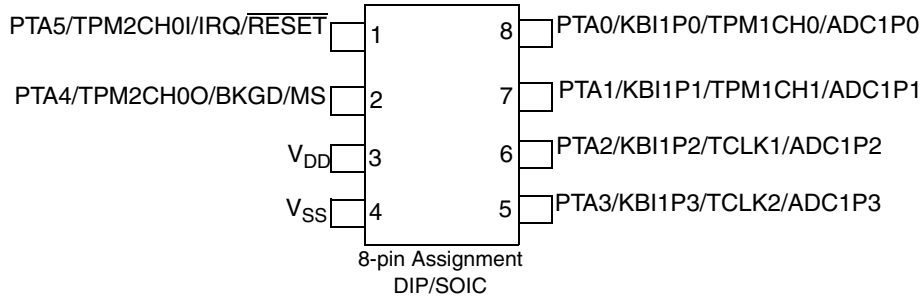
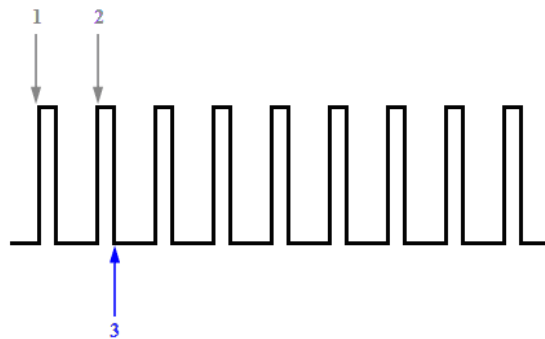

Figure 7. MC9S08QD4 8-Pin Package
Figure 8. Input Signal Data Measurements
The code can take samples of the duty cycle and determine the percentage of the duty. As shown in Figure 7, PTA5 can be used with the TPM module configured as input capture. In this mode, the TPM2CH0I detects in rising-edge and falling-edge of all the changes of the input signal (Figure 8). These changes are stored as variables and then are calculated to produce the duty cycle. For details see the MC9S08QD4 Data Sheet.
2. Check Mode — This mode calculates the duty cycle of the input signal. The status of this routine is determined by monitoring the `Check` variable. Avoid using a previously calculated duty cycle. Interrupts are disabled and the `TPM2CH0I` is configured as input capture with a rising edge. When the code detects the first rising edge it waits for the second rising edge. See Figure 8. After the first rising edge is detected, the `TPM2` counter begins counting. When the second rising edge is detected the counter stops and the value is read. The `Frequency` variable is stored and the counter is reset to zero. Counting then begins again. Next, the `TPM2CH0I` is configured as input capture and falling edge while waiting for the third point. See Figure 8. When the third point is detected, the counter stops. This value is read and then stored in `Duty_Cycle_H` variable.